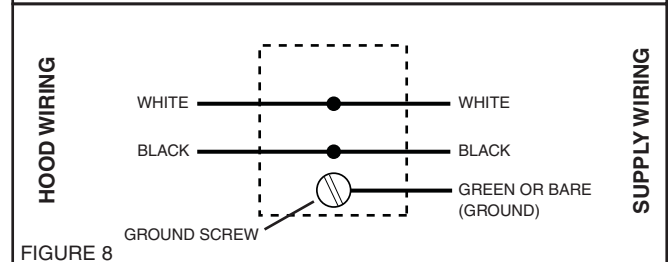

FIGURE 8
2. Refer to Figure 8. Make wiring connections.